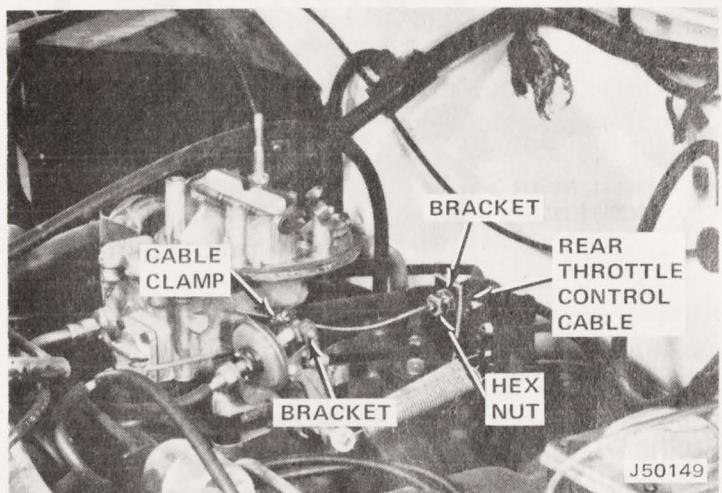

Fig. 10-6 Rear Throttle Control Cable at Carburetor
- (1) Remove air cleaner.
- (2) Remove cable clamp from throttle control cable at carburetor linkage (fig. 10-6).
- (3) Remove hex nut securing throttle cable to bracket at rear of engine.
(2) Route cable forward through vehicle chassis to carburetor (fig. 10-6).
(3) Install cable in bracket at rear of engine and secure with hex nut.
(4) Install cable clamp on cable.
(5) Install air cleaner.